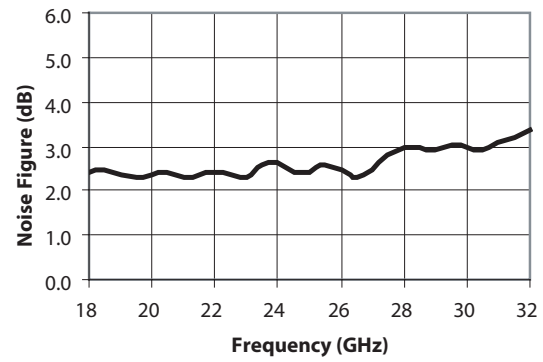

Figure 2. Noise Figure
2. Noise Figure is measured with a 3-dB pad at the input of the device. Losses are de-embedded from the data shown in Figure 2, 8 and 10.